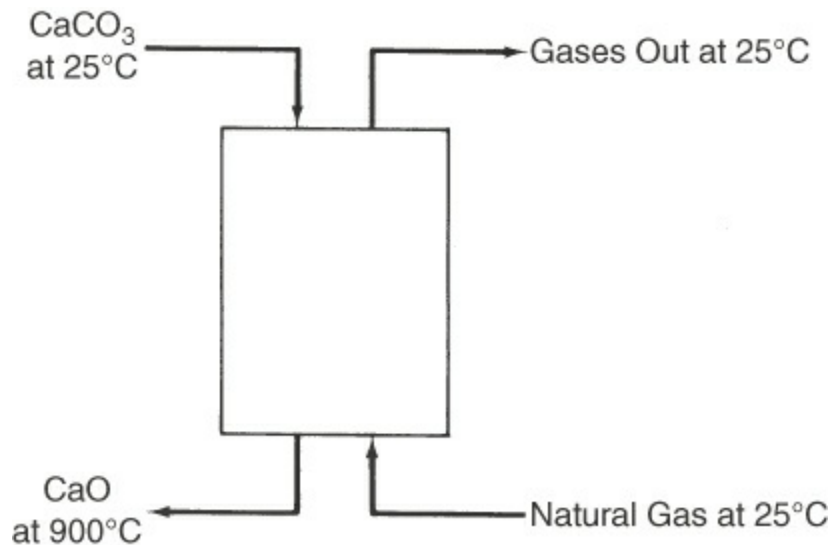

Figure P14.5
14.5 Limestone (CaCO_3) is converted into CaO in a continuous vertical kiln (see Figure P14.5). Heat is supplied by combustion of natural gas (CH_4) in direct contact with the limestone using 50% excess air. Determine the kilograms of CaCO_3 that can be processed per kilogram of natural gas. Assume that the following average heat capacities apply: